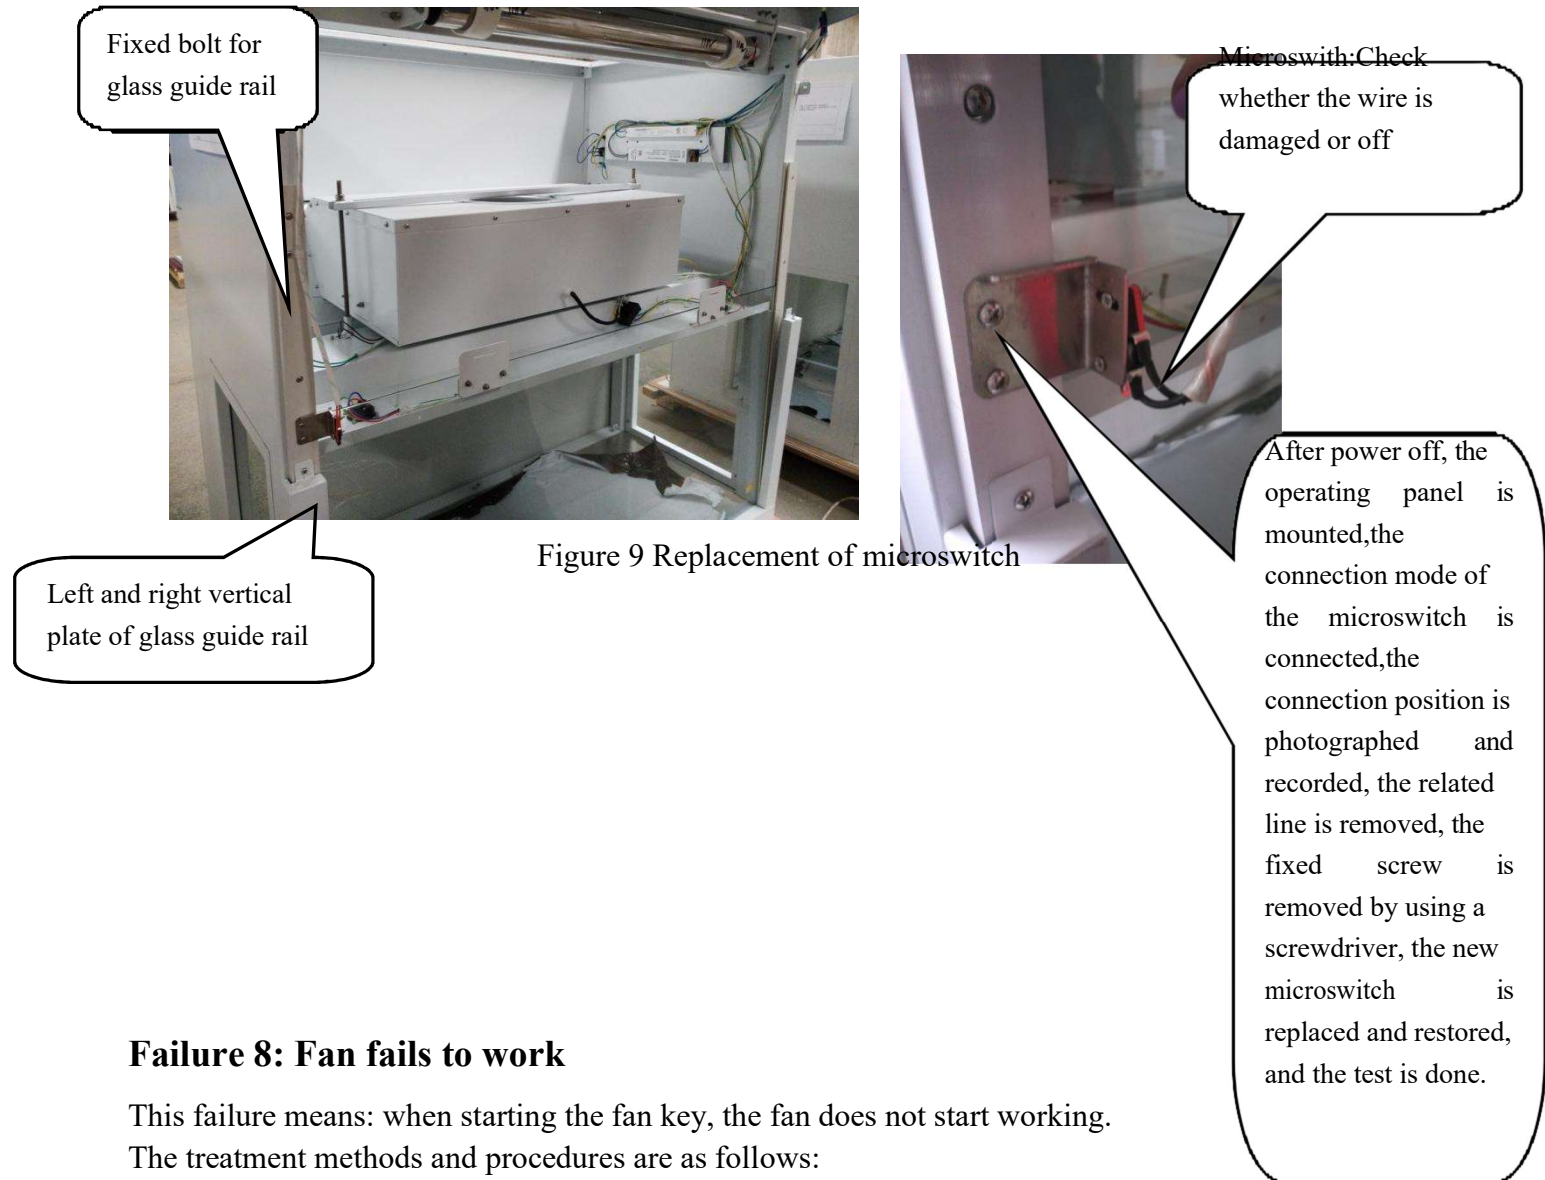

Figure 9 Replacement of microswitch
7.5 If everything is working fine, Ballast is damaged, replace the new ultraviolet lamp ballast of the same specification.(The same method of replacing the fluorescent lamp ballast, See figure 9)